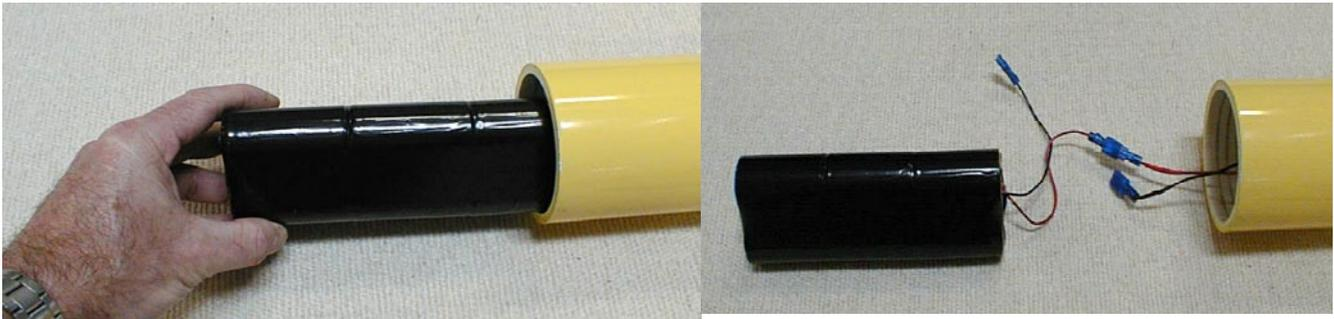

Figure 2 Removing battery pack (l) and disconnecting power wires (r)
2. If there is a battery pack inside, **carefully** pull the battery pack from the hull compartment until the red and black power wires and connectors are accessible (Fig. 2).
3. Disconnect the insulated spade connectors on the red and black power wires and remove the battery (Fig. 2).